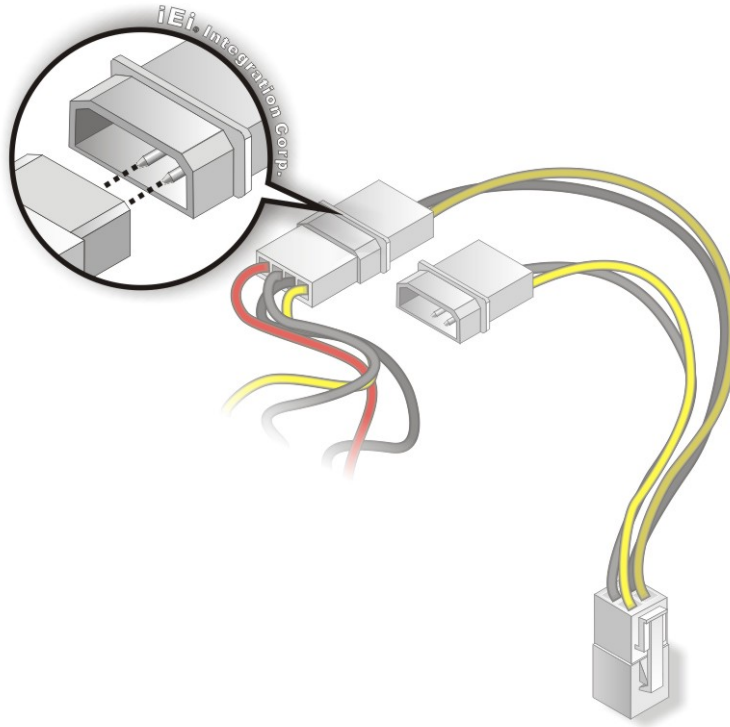

Figure 4-18: Connect Power Cable to Power Supply
Step 3: Connect Power Cable to Power Supply. Connect one of the 4-pin (1x4) Molex type power cable connectors to an AT/ATX power supply. See **Figure 4-18**.